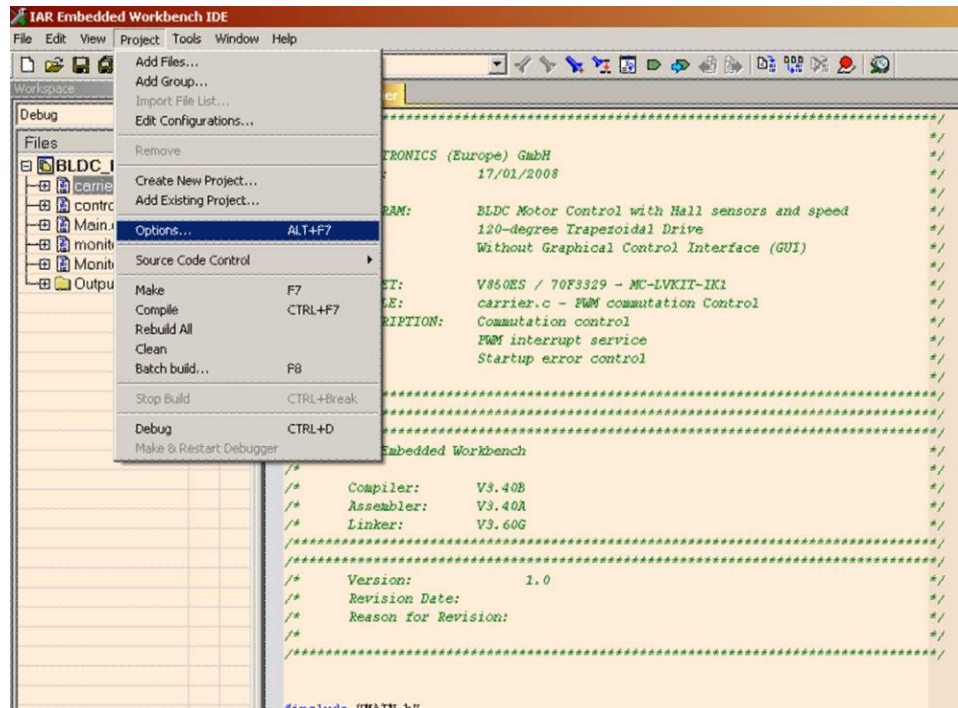
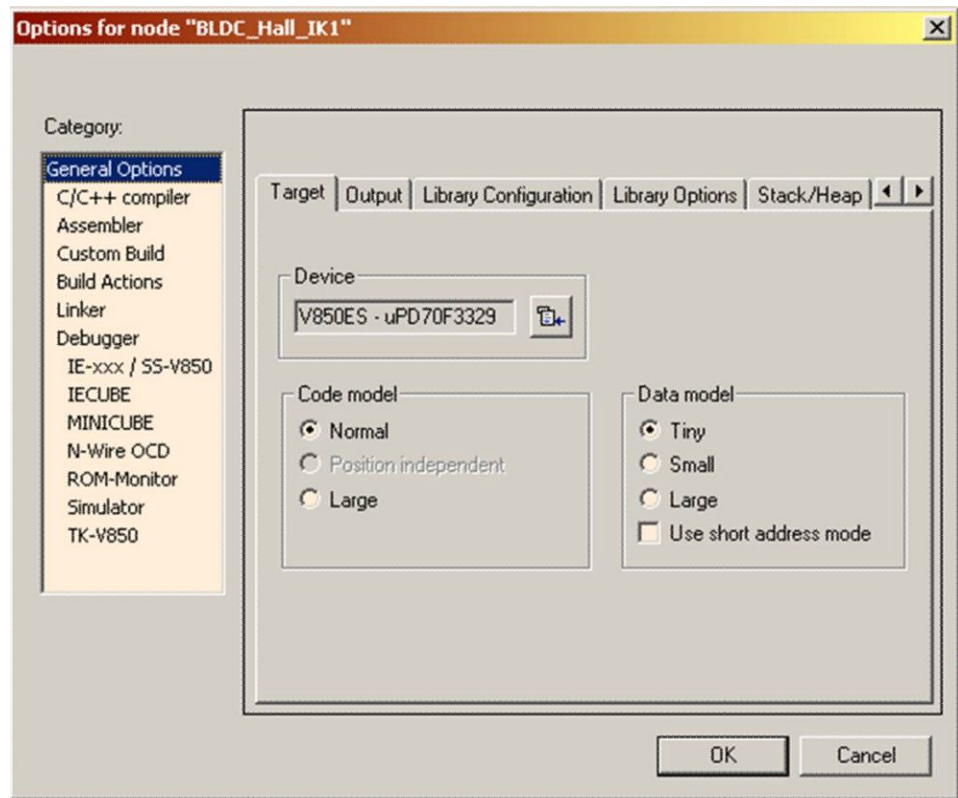
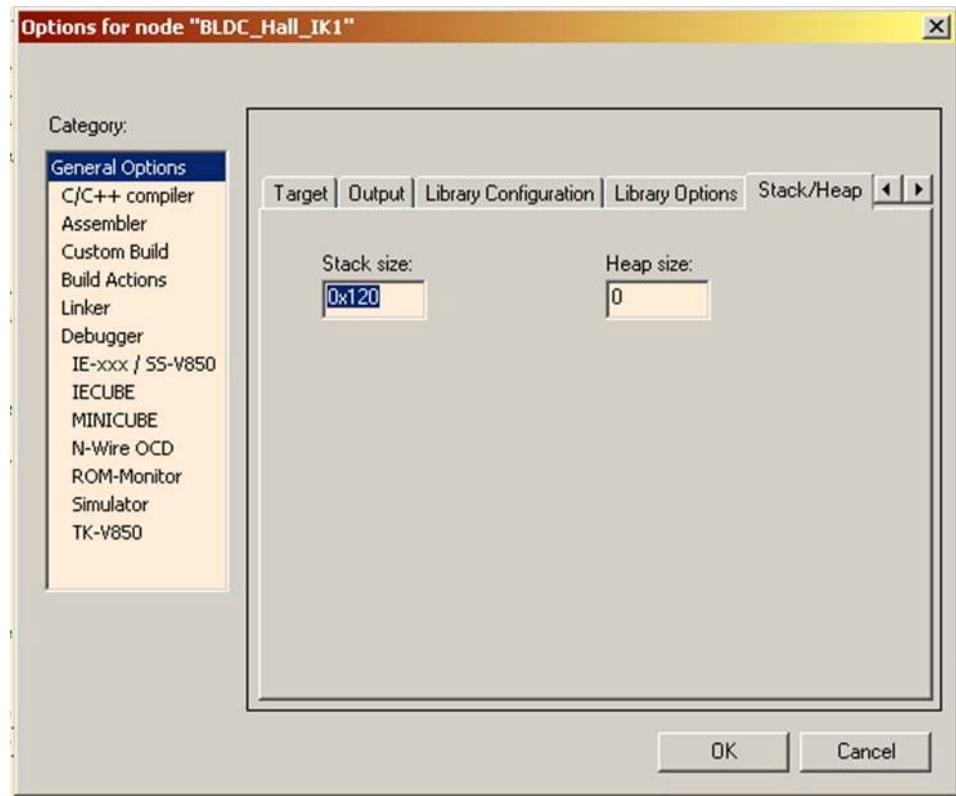

Figure 8-7 Project build options
Figure 8-8 General Options – Setting the Target Device
Figure 8-11 General Options – Setting the Stack and Heap
3. The build options for the project can then be set or changed using the following menus. The build options are entered as shown in "Figure 8-7" below, then ensure all the options are as shown in "Figure 8-8" to "Figure 8-11" below.